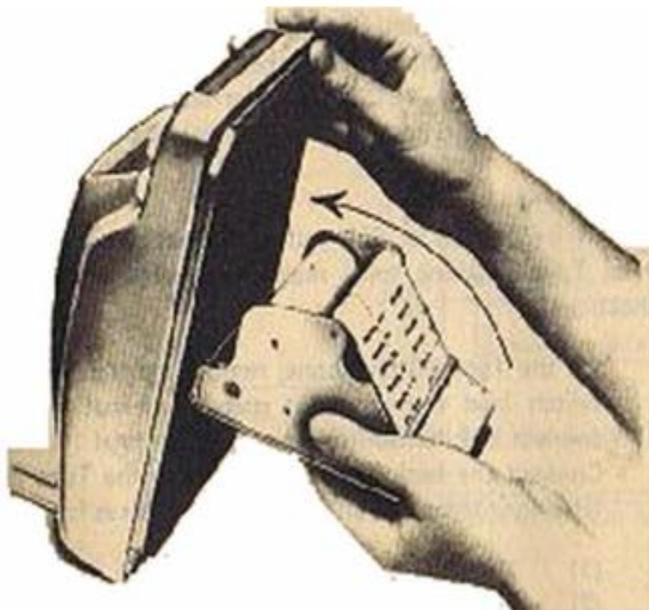

Figure 5. Replacing Tape Cartridge in Basic Dialer Unit.
3.11 Replace the tape cartridge as follows (Figure 5):